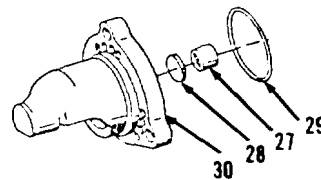
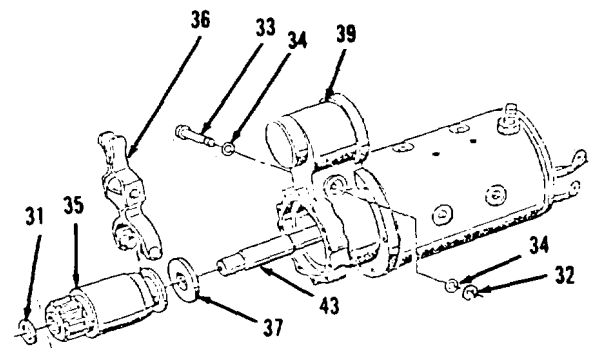
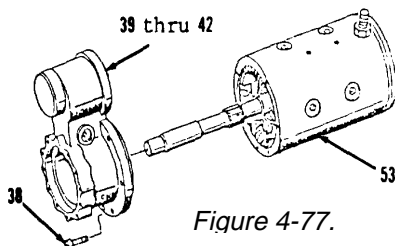

Figure 4-75.
Figure 4-76.
Figure 4-77.
23. Using spring loaded collet and extractor, remove and discard bearing (27, Figure 4-75).
24. Remove and discard spacer (28).
25. Remove and discard preformed packing (29) from housing (30).
26. Remove washer (31, Figure 4-76).
27. Remove ring (32), pin (33) and two preformed packings (34) from housing (39). Discard two preformed packings (34).
28. Remove drive (35), lever (36) and washer (37) from armature (43) shaft.
29. Remove six screws (38) and items 39 thru 42 as an assembly from housing (53, Figure 4-77).